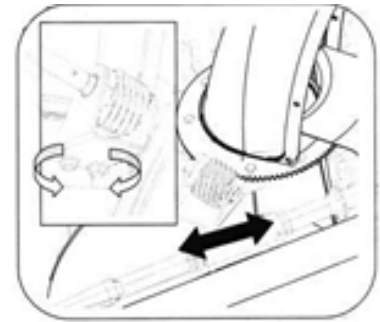

Figure 32
1. Loosen the two nuts which secure the chute brackets and reposition is slightly, See Figure 32.
2. Retightening the nuts. See Figure 32.